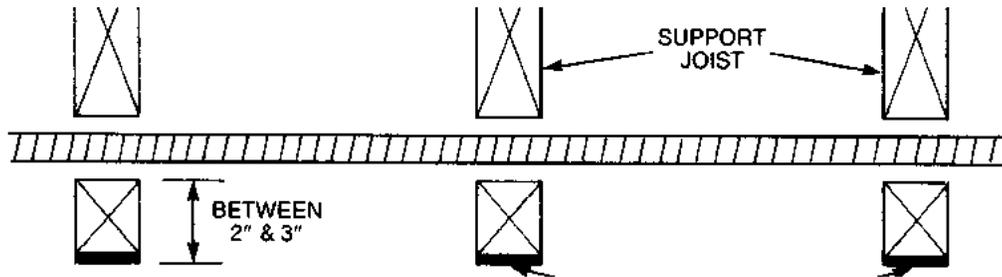

Figure 4-5
b. At support points and points of penetration 2 to 3 inches from any edge of stud, joist, plate, etc. shielding is required throughout area of support. Use a quarter striker plate in these locations. (Figure 4-5)